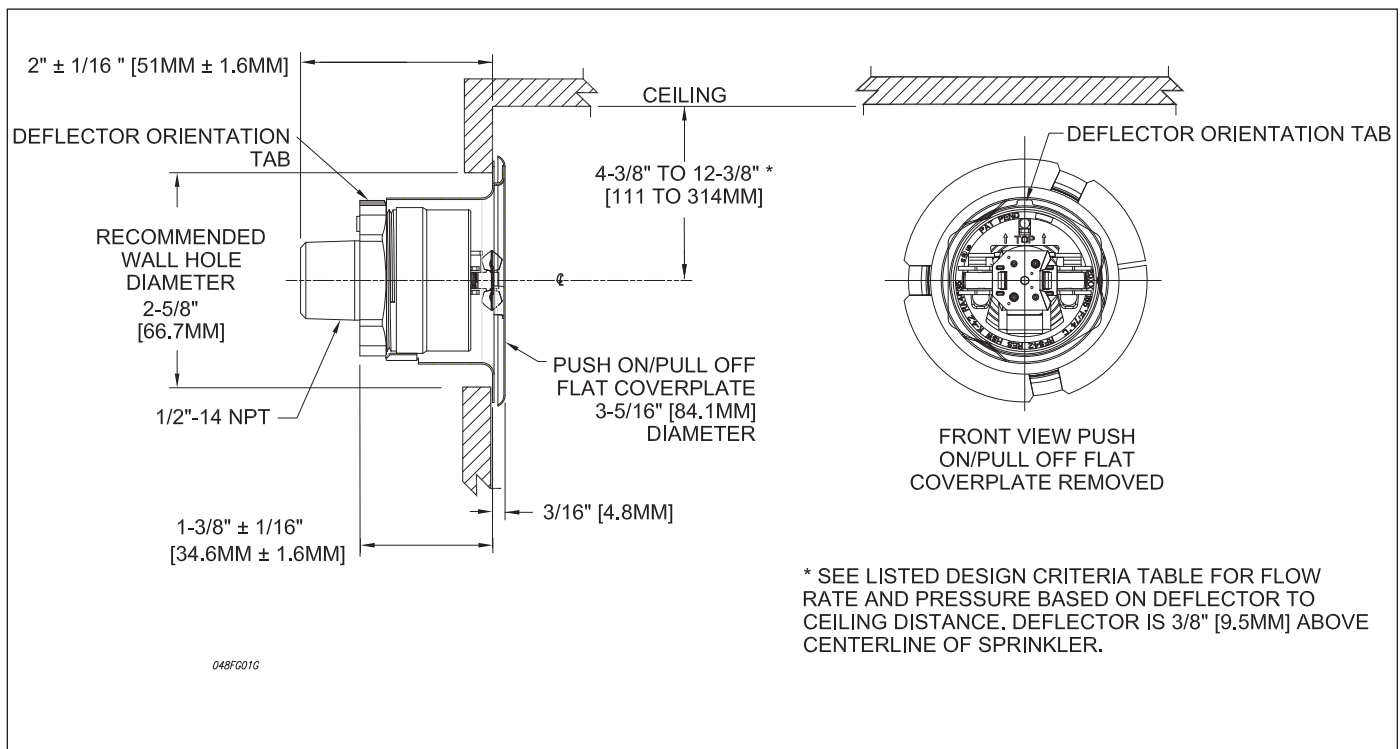

Fig. 1
Do not remove the factory installed plastic protective cap since it is sized to fit inside the G6 wrench. Note that the sprinkler can only mate when the sprinkler's deflector orientation tab (Fig. 1) is aligned with wrench's key-way. The G6 wrench is provided with bubble level pad and TOP marking, to allow the proper orientation of the horizontal sidewall deflector. Final leveling can be done after leak proof joint is obtained with a minimum to maximum torque of 8 to 18 ft-lbs (11 to 24 N·m). Leave the protective cap on to protect the sprinkler while the wall is plastered, wallpapered or painted. The protective cap must be removed and the listed cover plate installed prior to the sprinkler system being placed in service. A 2⁵/₈" (67 mm) diameter hole must be cut in the wall for the sprinkler assembly to extend through.
4. The sprinkler fitting shall be installed so that the rear of the sprinkler is 2¹/₁₆" +/- 1/₁₆" from the finished surface of the wall. Verify wall assembly dimensions prior to installation to ensure that the cover plate attaches to the sprinkler and seats against the finished wall surface (Fig. 1).